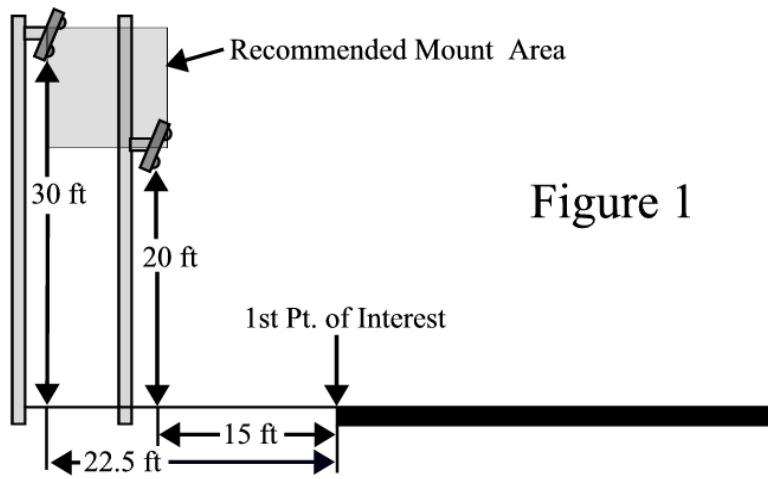

Figure 1
- Choose a location for the sensor to be mounted. The sensor can be mounted on a vertical or horizontal placed pole or on a flat vertical surface (i.e. wall, billboard, etc.). It is recommended that the mounting location be a distance 15-22.5 ft from the nearest point of interest and mounted 20-30 ft above road level as illustrated in figure 1.
- Aim the front of sensor at the center of the detection area (figure 1 & 3).